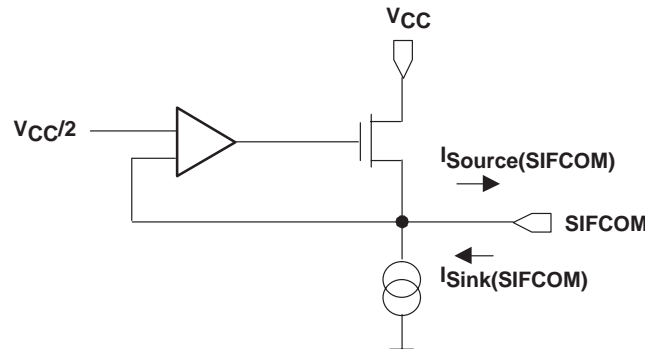

Figure 20. P6.x/SIFCHx timing, SIFCHx function selected
10. The sink and source currents are a function of the voltage at the pin SIFCOM. The maximum currents are reached if SIFCOM is shorted to GND or VCC. Due to the topology of the output section (refer to Figure 20) the VCC/2 generator can source relatively large currents but can sink only small currents.